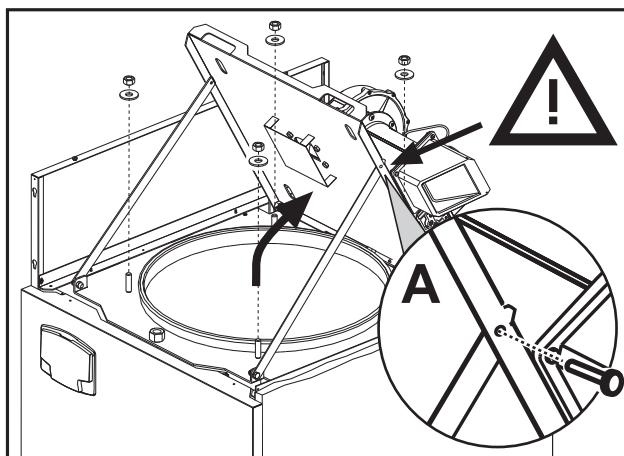

fig. 69
2. Remove the four nuts and washers (fig. 69).
3. Open the burner door (fig. 69).
! After opening the burner door and hooking it to the support arms a pin must (compulsory) be inserted in the safety hole (ref. A - fig. 69), to avoid the risk of accidental release during maintenance operations.